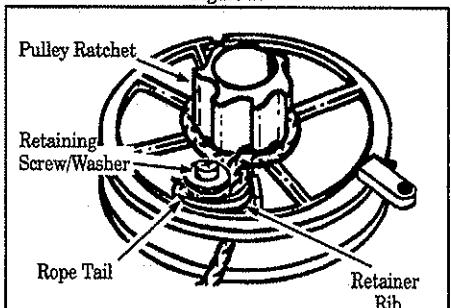

Figure 18
- Wrap rope counterclockwise around the pulley ratchet and tuck the loose end back under the rope, leaving about a 1 inch (25 mm) tail next to the retainer rib. Figure 18.
**NOTE:** In step 13., do not overtighten the retainer screw. Over tightening the screw can cause the screw post to strip out. Tighten the screw until the bottom of the washer either (1) is snug against the rope or (2) contacts the top of the screw post.
- Install and tighten the retainer screw and washer. Figure 18.